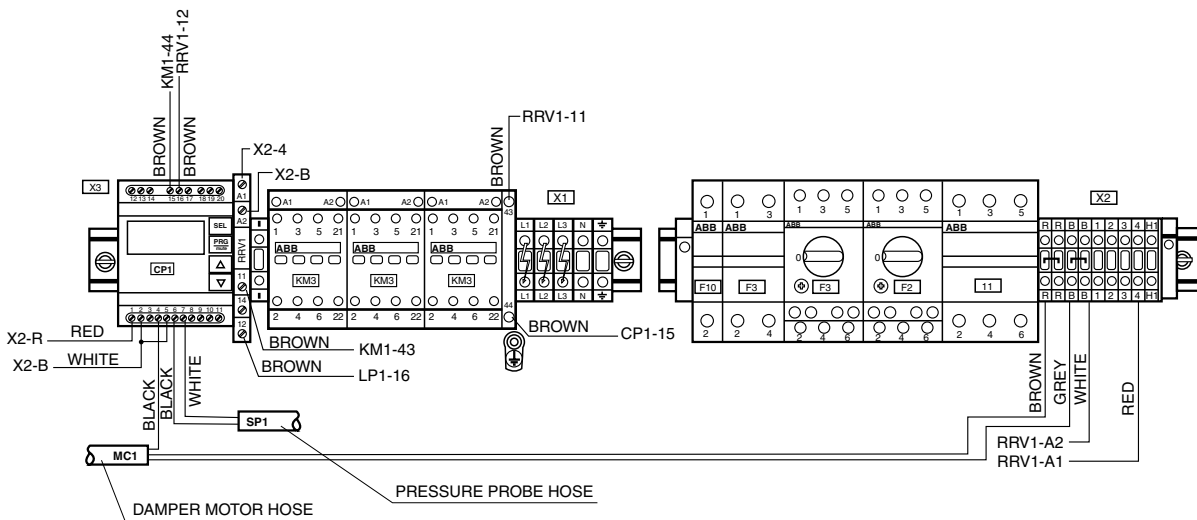

Fig. 8
- 7.- Fit the CP1 control unit in the DIN guide on the X3 connecting strip side. On models RTH, also install relay RRV1 (Fig. 8).